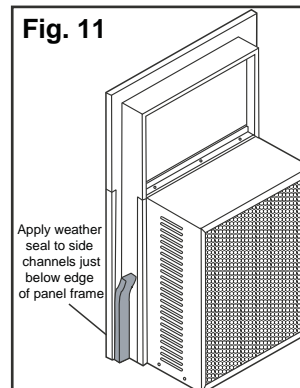

Fig. 11
13. Cut side channel seal. (Fig. 11)
13. Place the air conditioner in the window opening. (Fig. 11)